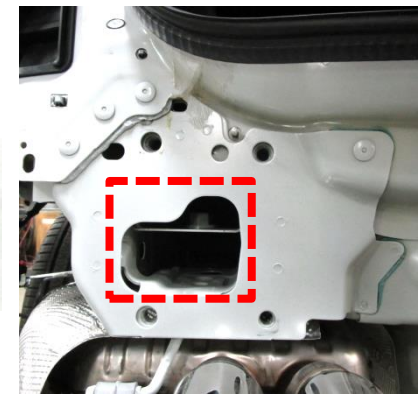

Figure 3
- 4. Hitch installation** - Use silicone sealant to seal around the opening on the end panel each side, see **Figure 3**. Raise the hitch into position and align it with bumper end panel holes. Loosely secure the hitch to the bumper end panel using (8) existing M14 factory bolts removed in Step 3, see **Figure 1**.
4. Hitch installation - Use silicone sealant to seal around the opening on the end panel each side, see **Figure 3**. Raise the hitch into position and align it with bumper end panel holes. Loosely secure the hitch to the bumper end panel using (8) existing M14 factory bolts removed in Step 3, see **Figure 1**.